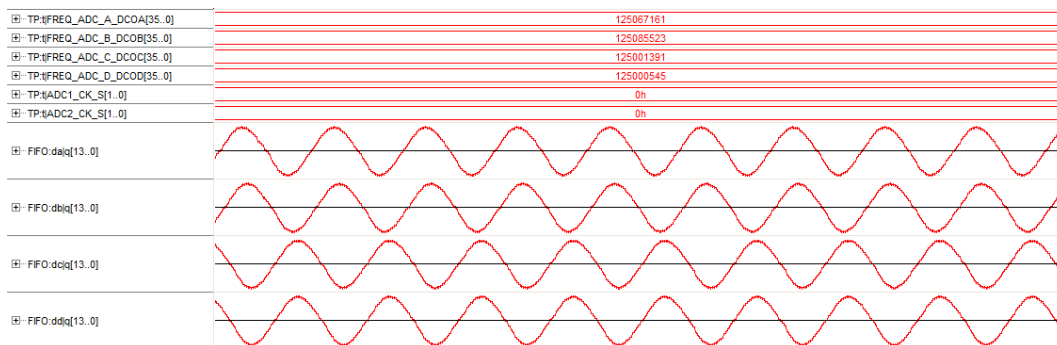

Figure 4-5 Signal Tap Logic Analyzer for TR5
10. Click Start button on Signal Tap Windows, the ADC waveform will appear as shown in **Figure 4-5**. (It shows four channels Sine wave, because the four channels of the Analog signal generator are all connected to the four ADC_In ports. If only one channel signal is connected, only one sine wave will be shown in Signal Tap Logic Analyzer).